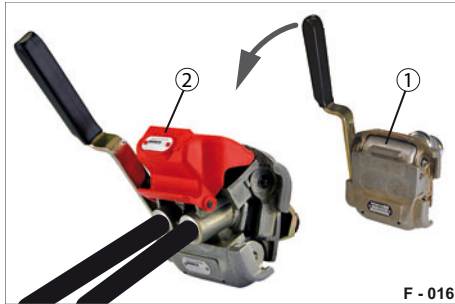

Fig. 22 Duo-Matic, coupled
- Make sure that sealing coupling head and Duo-Matic quick-release coupling socket surfaces are clean (Fig. 22/1).